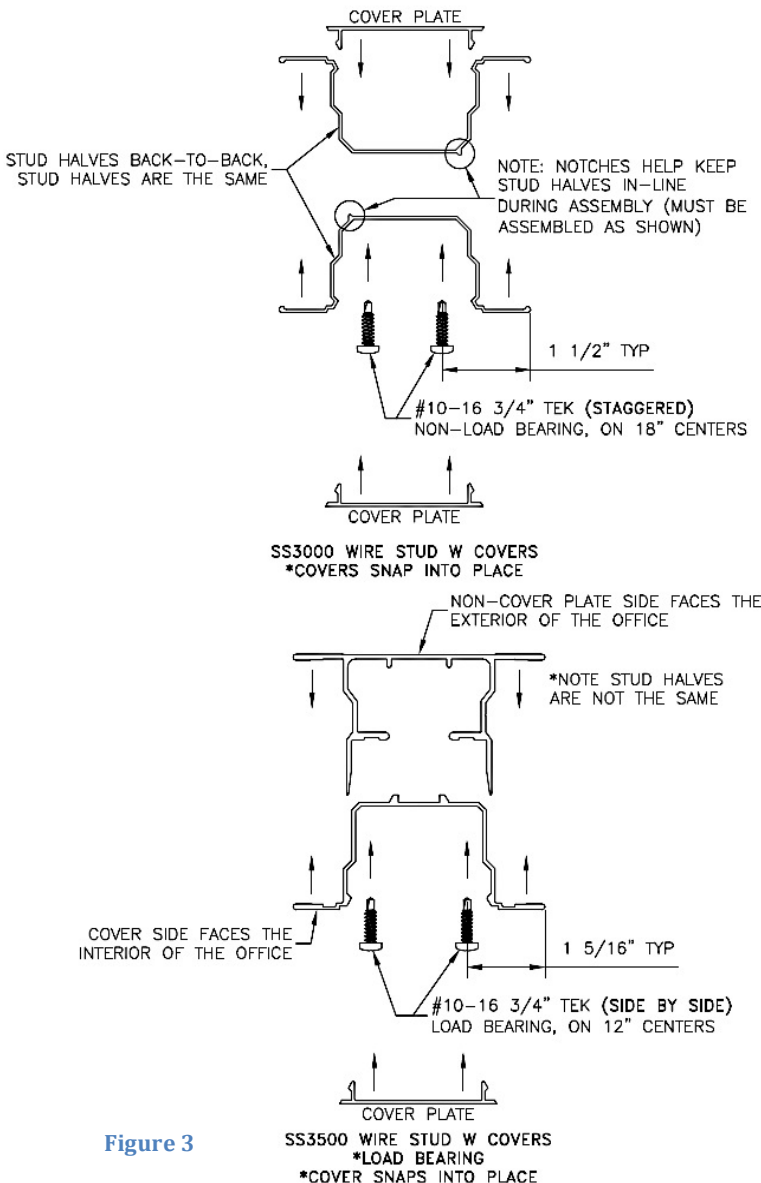

Figure 3
The SS3000 system includes (2) piece wire studs along with (2) snap in covers. The SS3500 system includes (2) piece wire studs along with (1) snap in cover. Wire studs can be pre-assembled prior to placing them in the floor track. The wire studs are fastened together by #10-16 3/4" Self Drilling Phillips Pan Head TEK Screw. The screws heads are painted the same color as the wall studs. (See Figure 3)